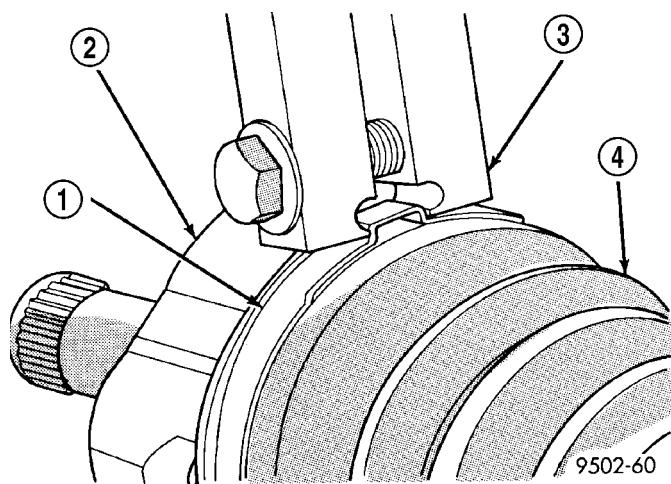

Fig. 42 Crimping Tool Installed on Sealing Boot Clamp
(11) Clamp tripod joint sealing boot to tripod joint using required procedure for type of boot clamp application. If seal boot uses crimp type boot clamp, clamp sealing boot onto tripod housing using crimper, Special Tool C-4975-A. Place crimping tool C-4975-A over bridge of clamp (Fig. 42). Tighten nut on crimp-